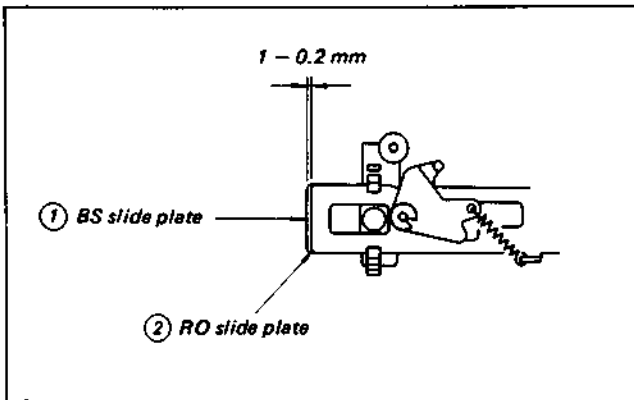

Fig. 3-14b. FF solenoid adjustment
- As shown in Fig. 3-14b, adjust the solenoid so that there is 1 mm – 0.2 mm clearance between the BS slide plate ① and the end of RO slide plate ② when viewed from directly above.